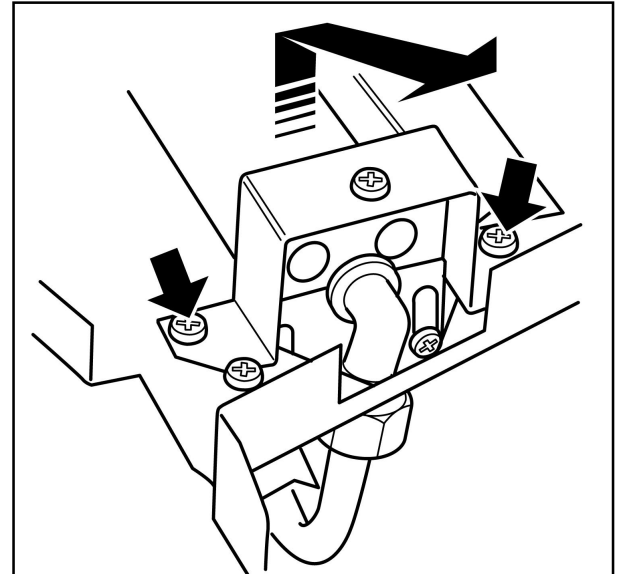

Figure 48. Removal of burner
(See figure 48).
3. Remove the two screws from the burner clamping plate (See figure 48).